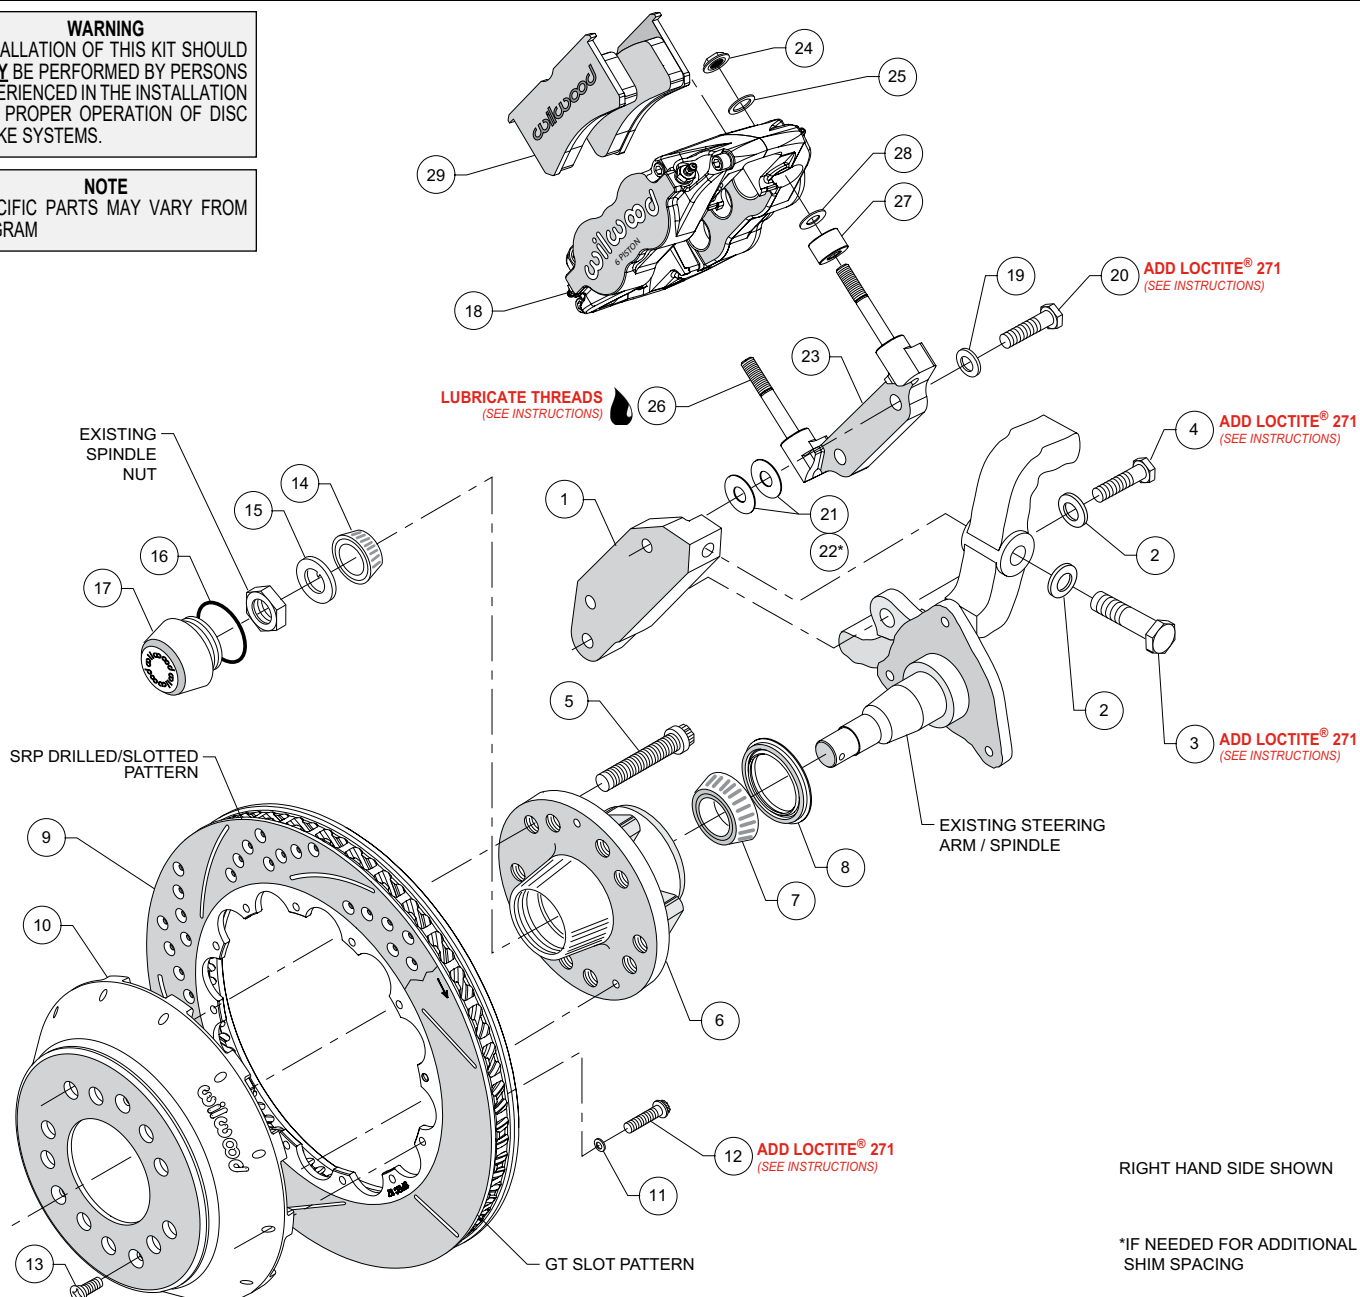
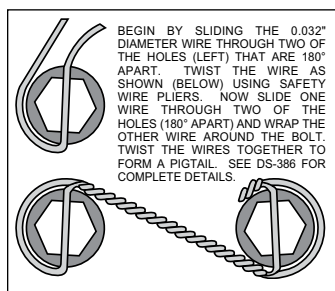

Figure 1. Typical Installation Configuration
Figure 3.
NOTE: Numbers in parenthesis refer to the parts list and Figure 1 on the preceding pages.
- Orient the spindle mount bracket (1), as shown in Figure 1, and attach to the spindle using bolt (3) and washer (2) in the upper hole, and bolt (4) and washer (2) in the lower hole. The bracket must fit squarely against the spindle mount points. Inspect for interference from casting irregularities, machining ridges, burrs, etc. Remove bolts one at a time, apply red *Loctite*® 271 to the threads, and torque to 77 ft-lb.
- Install wheel studs (5) into the hub (6), Photo 1. Torque to 77 ft-lb.
•Orient the rotor (9) and the hat (10) as shown in Figure 1 and Photo 4. Attach rotor to hat using bolts (12) and washers (11). Using an alternating sequence, apply red *Loctite*® 271 to the threads, and torque to 155 **in-lbs**. For an added measure of security, the bolts may be safety wired using standard 0.032 inch diameter stainless steel safety wire as shown in Figure 3. Refer to Wilwood's data sheet DS-386 (available at www.wilwood.com/Pdf/DataSheets/ds386.pdf) for complete safety wire installation instructions.
•Orient the radial mount caliper bracket (23), as shown in Figure 1, and mount to the spindle mount bracket (1) using bolts (20), and washers (19). Initially place two .030" thick shims (21) on each bolt between the two brackets. Temporarily tighten the mounting bolts. Later, after the caliper alignment has been checked, the mount bolts will be secured using red *Loctite*® 271.
•**NOTE:** *This kit contains distinct right and left hand calipers that must be mounted in a specific direction, as described below.* Lubricate the caliper mounting studs (26) with lightweight oil. Initially place spacer (27) and one .035" thick shim (28) on each stud between the caliper and the bracket, as shown in Figure 1 and Photo 5. Mount the caliper (18) onto the radial mount caliper bracket (23) using lock nuts (24) and washers (25), Figure 1. Ensure that the caliper is mounted so the largest pistons are at the rotor exit end of the caliper, in relation to the direction of rotor rotation. Temporarily tighten the lock nuts and view the rotor through the top opening of the caliper. The rotor should be centered in the caliper, Photo 6. If not, adjust by adding or subtracting .030" shims (21), or adding .016" thick shims (22), as necessary between the radial mount caliper bracket (23) and the spindle mount bracket (1). Always use the same amount of shims on each of the two mounting bolts (20). Once the caliper alignment is correct, remove the bracket mounting bolts (20) one at a time, apply red *Loctite*® 271 to the threads, and torque to 47 **ft-lb**.